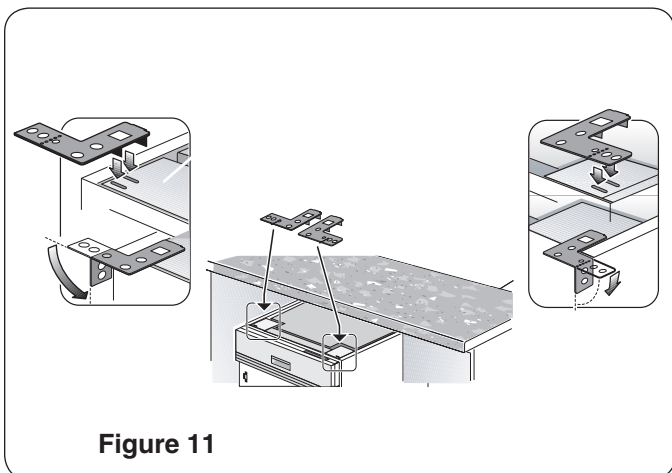

Figure 11
- 2 **Side Mount** is used for countertops made of marble, granite, or other very hard materials that cannot be easily drilled. Bend the mounting brackets along the small holes and in the same direction as the two small tabs. Orient the mounting brackets as shown in **Figure 11**, and position the two small tabs on the mounting brackets over the two slots on the dishwasher's front corners. Push the mounting brackets down firmly to insert the tabs into the slots.